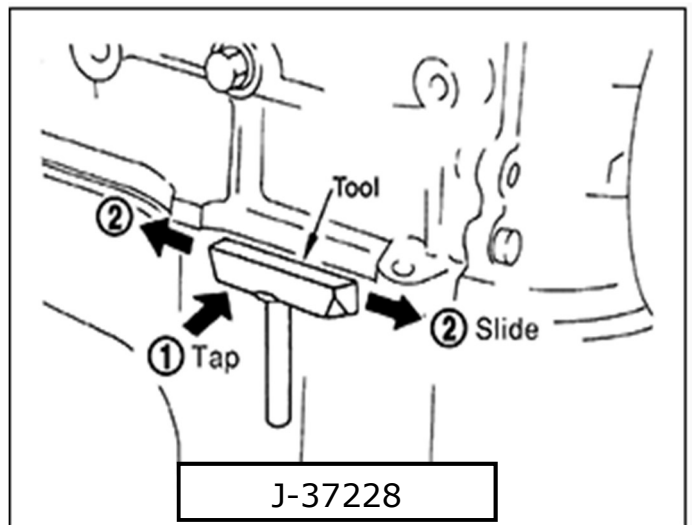

Figure 3
- Separate lower engine oil pan from the upper engine oil pan using (J-37228) (Figure 3)
**NOTE:** Tap (1) Tool to insert it and then slide (2) it by tapping on the side of the Tool as shown.